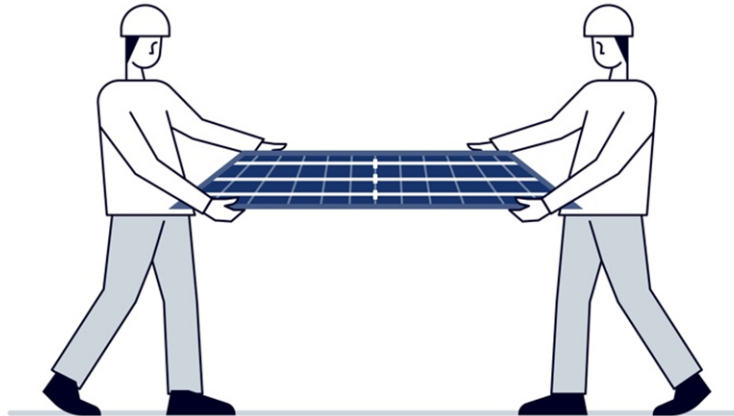

Figure 17: Module handling.
- g) PV Modules must be grabbed from the aluminum frame with two hands (Figure 17).